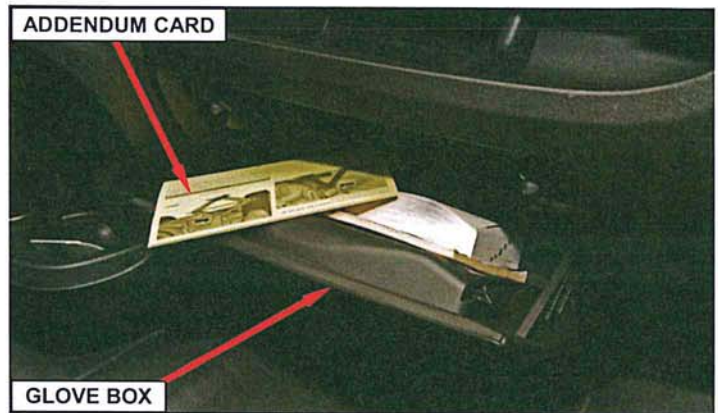

Figure 1 – Glove Box Addendum Card
2. Insert an addendum card, with matching language, into the owner's manual/user's guide kit (Figure 1).